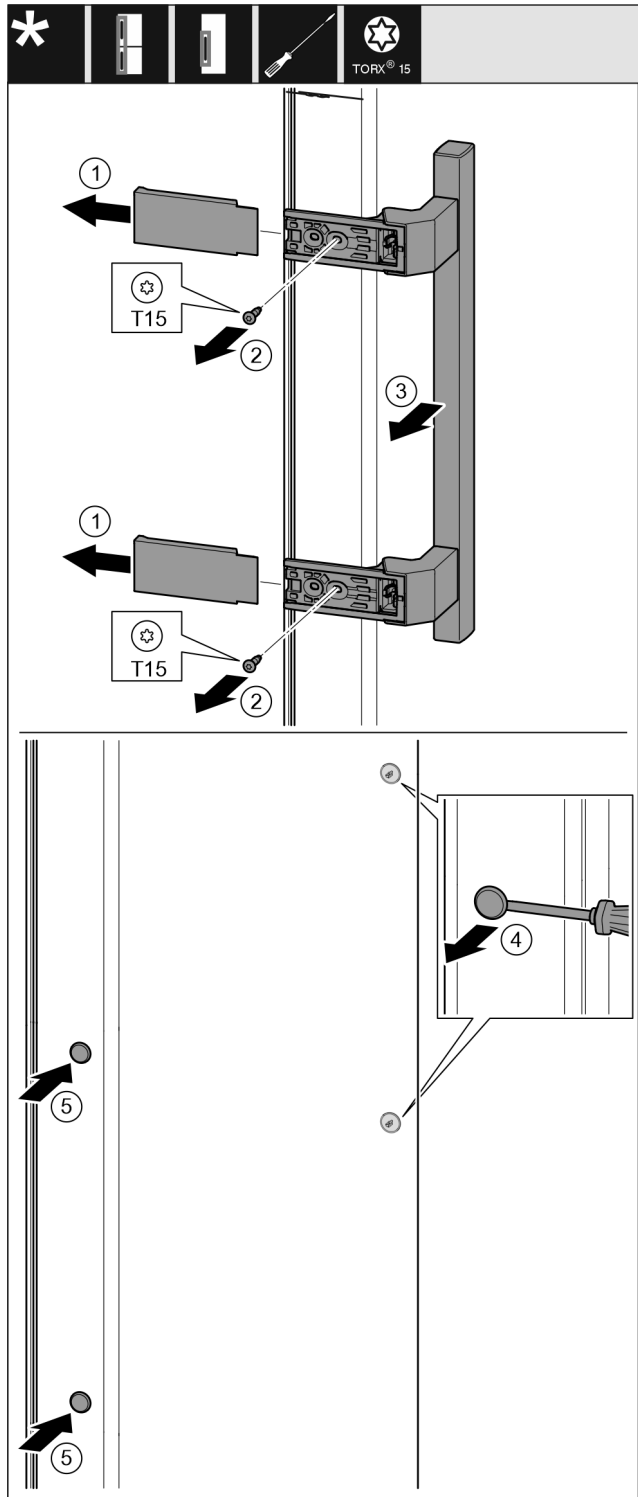

Fig. 11
- Pull off the cover. Fig. 11 (1)
- Unscrew the screws with a Torx 15 screwdriver. Fig. 11 (2)
- Take off the handle. Fig. 11 (3)
- Carefully lift the side plug with a slotted screwdriver and pull it out. Fig. 11 (4)
- Replace the plug on the other side. Fig. 11 (5)